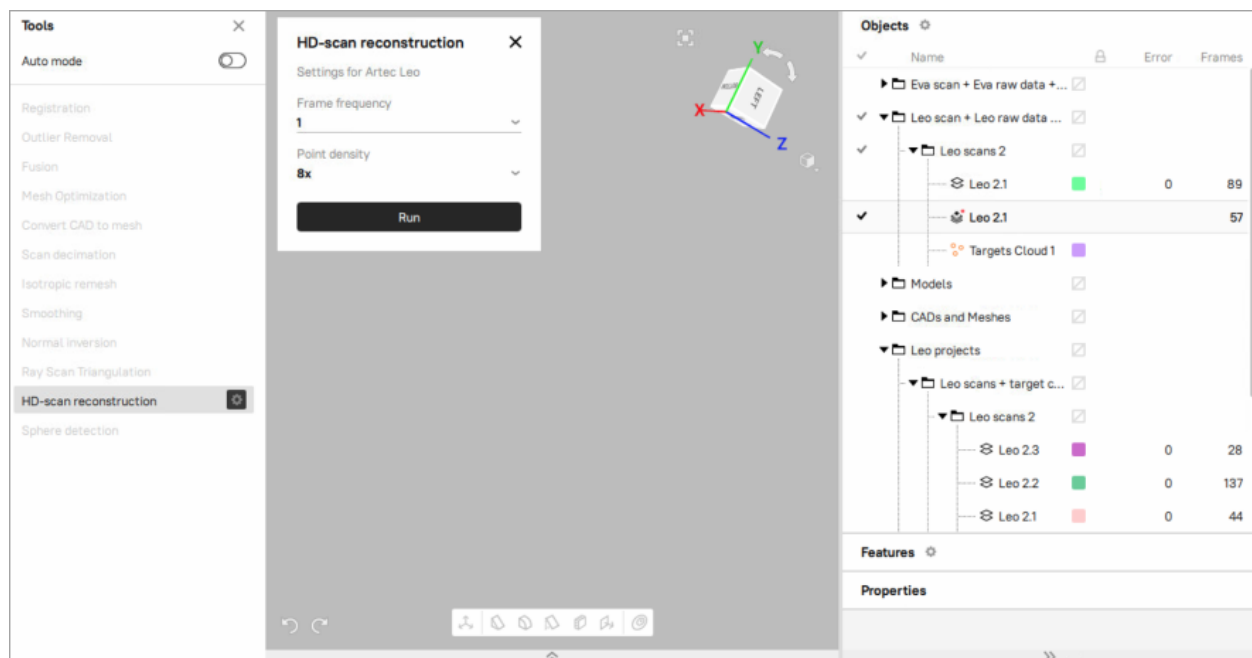

Figure 114: Launching HD scans reconstruction from saved raw HD data.
1. In the *Workspace* panel, select one or more raw data scans (Figure 114, right).
2. Open *Tools* → *HD Scan Reconstruction* (Figure 114, left).